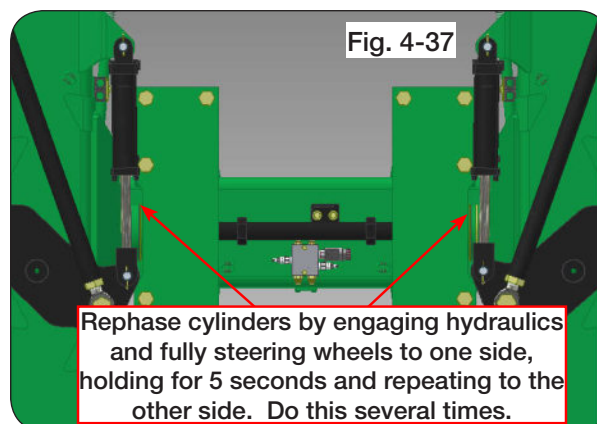

Fig. 4-37
6. If a cylinder does not fully extend after repeating steps 3 & 4, remove cotter pin and pin from the rod end of the steering cylinder. (Fig. 4-37)
9. Reattach the rod end of the cylinder to the steering turntable once the cylinders are rephased. (Fig. 4-37)